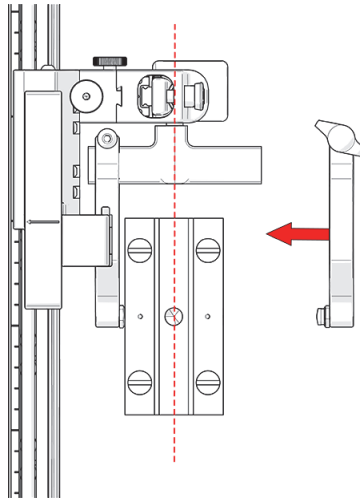

Figure 3-23 Reinstalling the outer arm
5. Align the middle of the wedge with the center of the yoke (see Figure 3-23 on page 53).